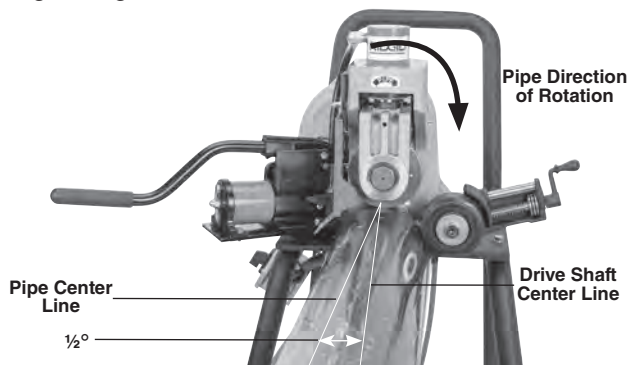

Figure 13 – Offsetting the Pipe  $\frac{1}{2}^\circ$ , (Exaggerated)
7. Slightly offset the pipe and pipe stands approximately  $\frac{1}{2}$  degree (about 1" over at 10 feet from the roll groover) towards the operator. Proper alignment of the pipe and roll groover helps to ensure proper tracking of the pipe while grooving (See Figure 13). This is proper offset for grooving and works with the stabilizer.